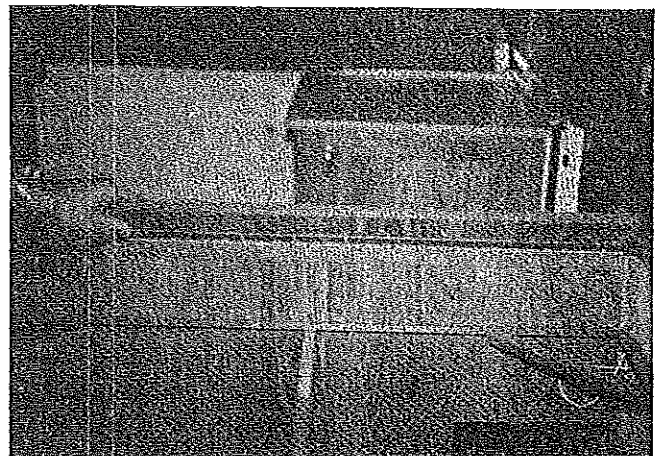

FIGURE 26
2. On models with a side dinette, lift the backrest off of the dinette table and slide each seat cushion inboard; that is, the rear seat cushion toward the front of the trailer and the front cushion toward the rear. Set one backrest in place against the front wall of the trailer and the other against the galley side. Slide the seat cushion in place making sure that the plastic stops are wedged firmly against the interior of the metal seat frame. The Avalon model trailer seat area has an additional backrest support on the front seat. This support must be raised to the upright position prior to placing backrest in position. See Figure 26.